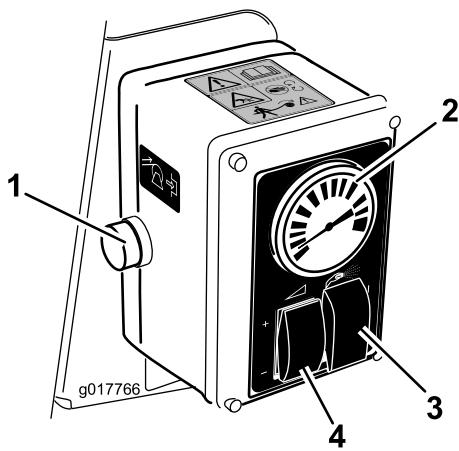

Figure 21
5. Set the spray selection switch to the hand spray position (Figure 21).
- Adjust the rate control switch and the throttle to increase or decrease the pressure, as read on the pressure gauge, to the desired setting (Figure 21).